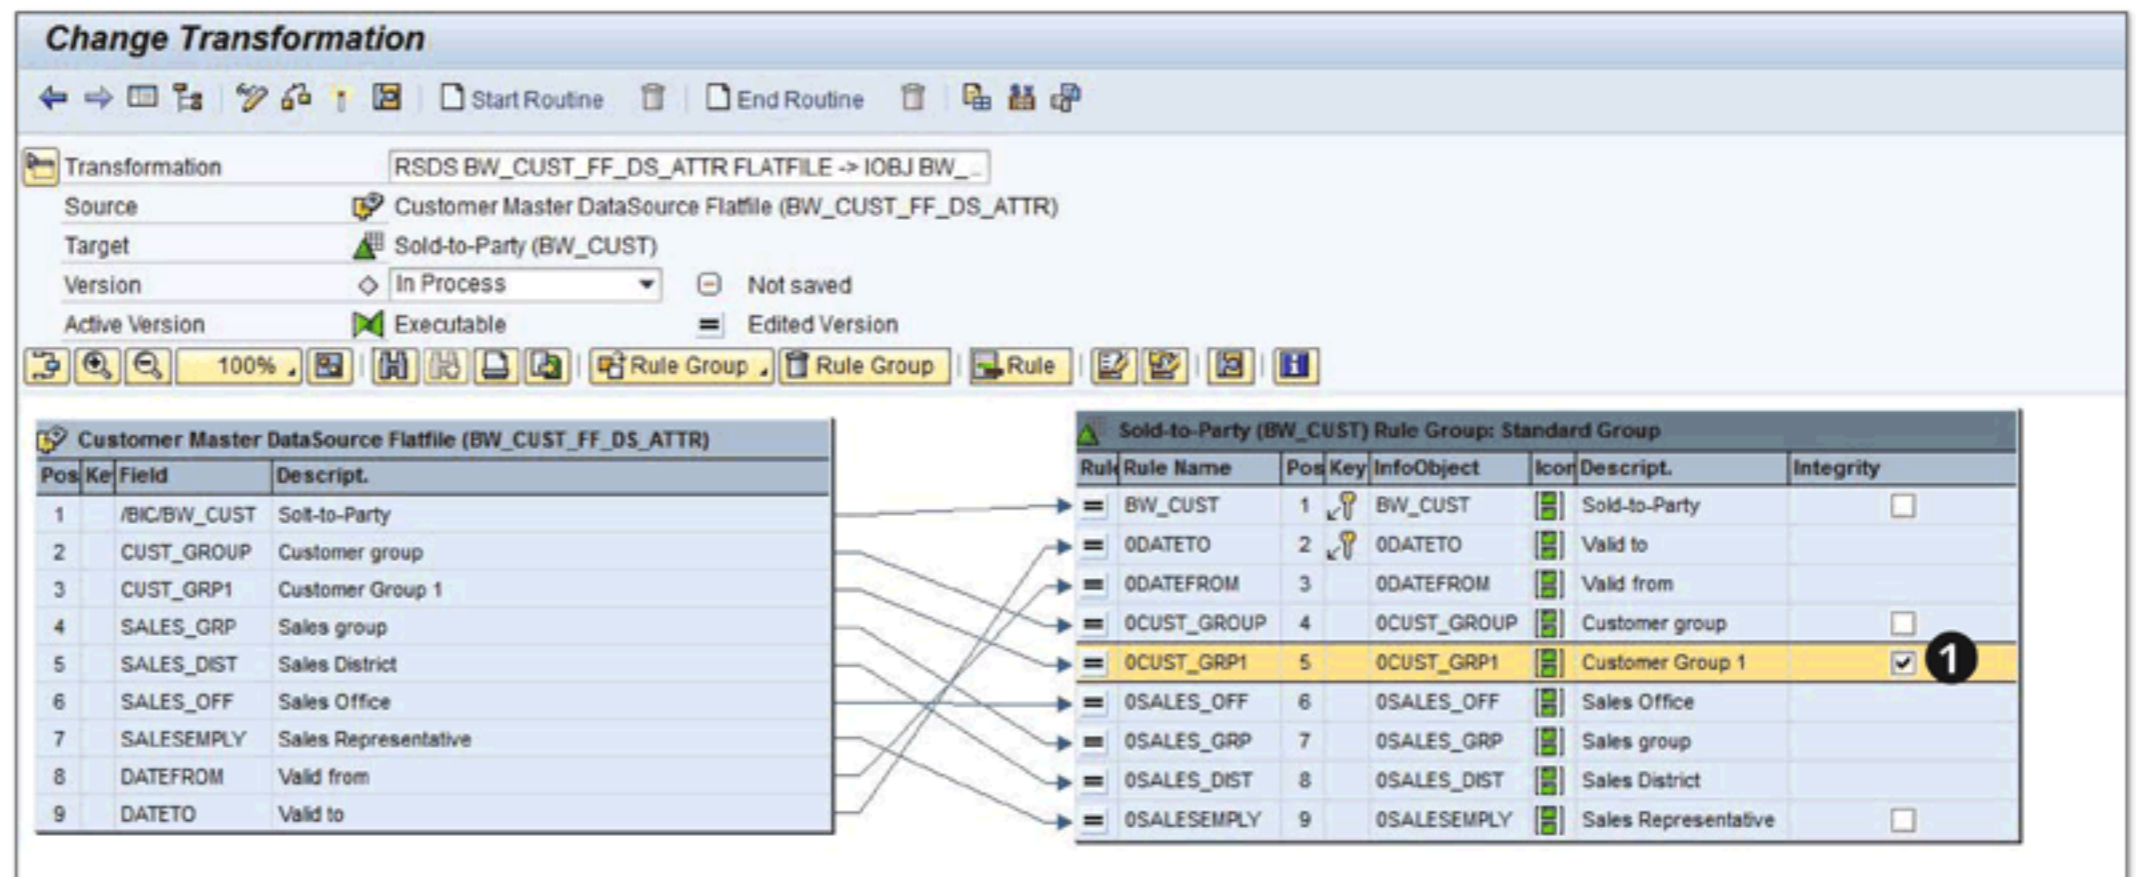

Figure 7.80 Setting an Integrity Check
As we said, we must configure an integrity check so that the system checks the value of 0CUST_GRP1 for each respective value of the customer. You therefore check the INTEGRITY checkbox shown in ❶ of Figure 7.80.